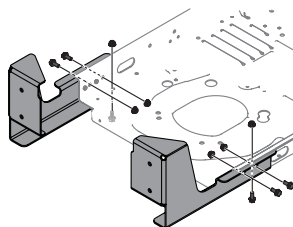

Figure 2
1. Secure the mounting brackets to the tractor using six hex screws (710-04043) and six flange lock nuts (712-04063) from hardware pack 689-00567. See Figure 2.